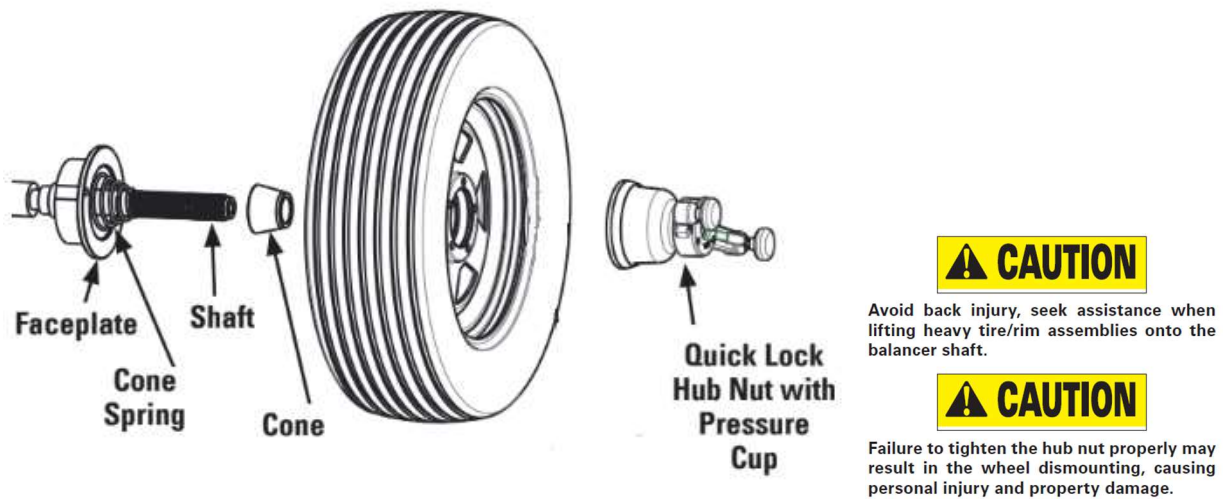

Figure 2.1
- Install the tire on the axle (See Figure 2.1).